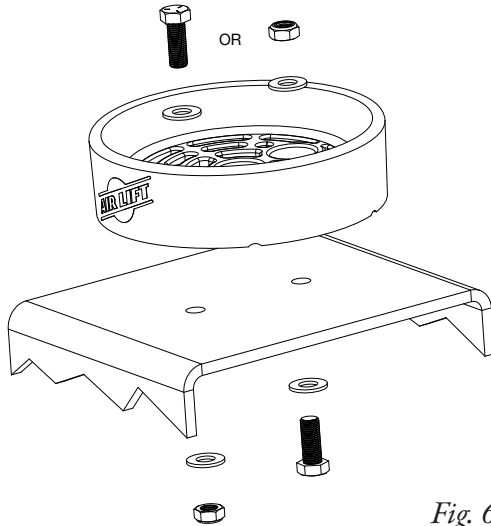
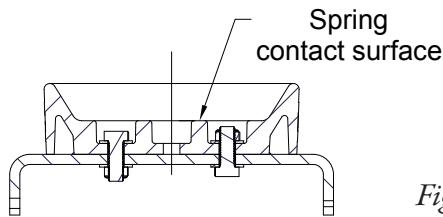

Fig. 6
Fig. 7
- The universal air spring cradle has been designed to install the hardware either facing up or down (Fig. 6) but is not to extend beyond the spring contact surface (Fig. 7).